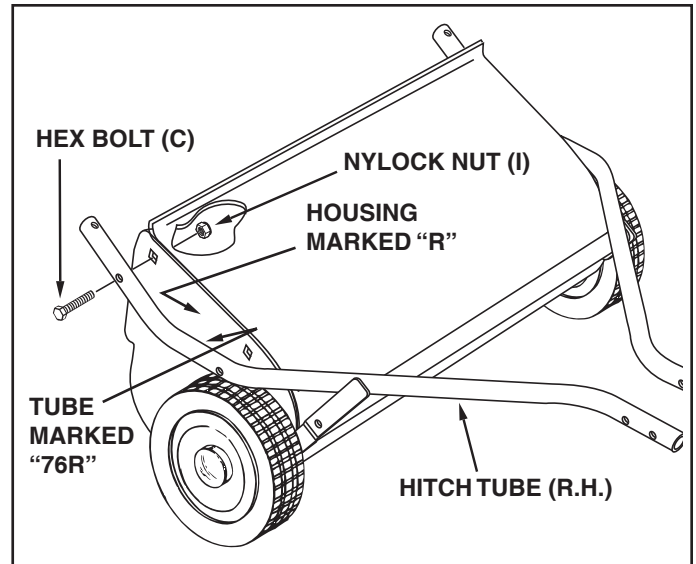

FIGURE 5
- Hold the right hitch tube against the right side of the sweeper so that the "76R" on the tube faces **toward** the sweeper. Attach the hitch tube using one hex bolt (C) and nylock nut (I). **Do not tighten yet.** See figure 5.